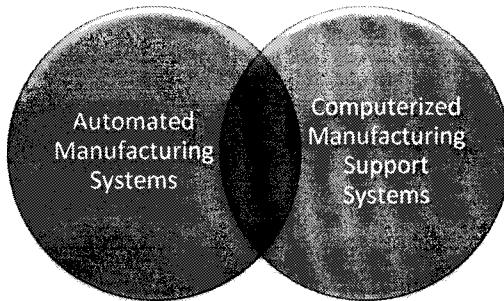

Figure 1
4. (**5 points**) From Figure 1, explain its main idea.